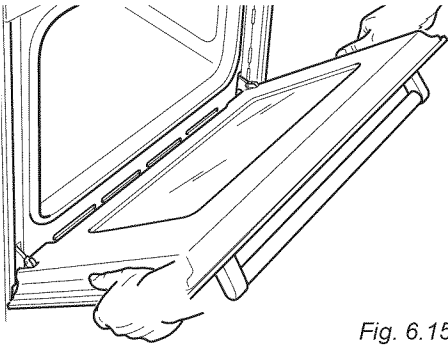

Fig. 6.15
- Hold the door as shown in fig. 6.15.
- Hold the door firmly (fig. 6.15).